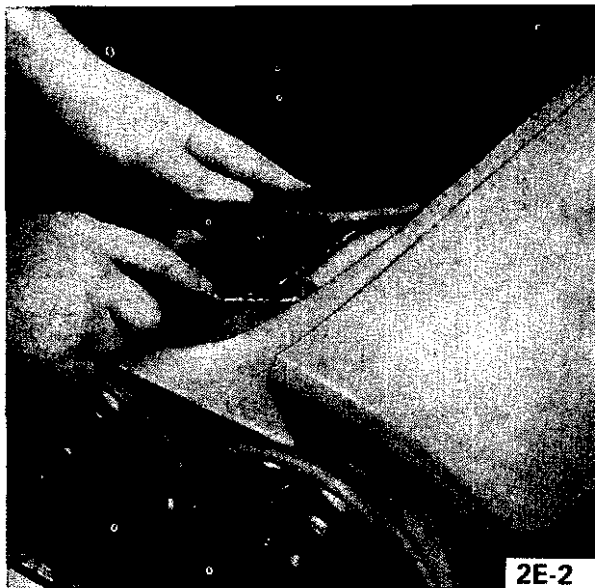

Figure 2E-2 installing Luggage Compartment Lid Weatherstrip
3. Install new weatherstrip with rubber cement. See Figure 2E-2.